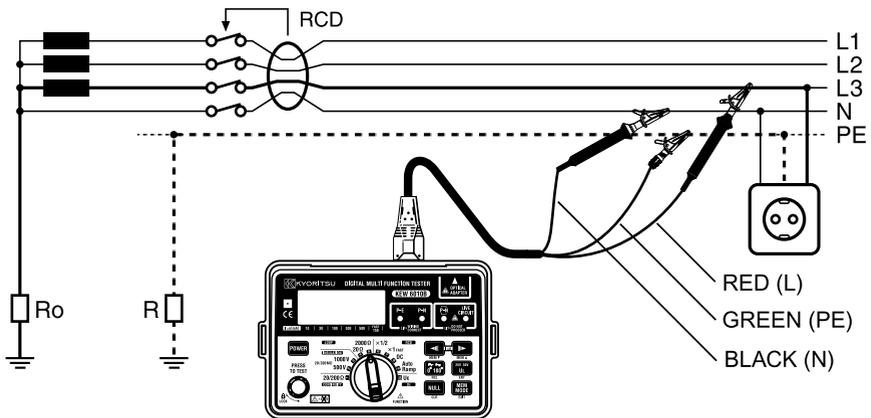

Fig 12
7. If testing lighting or other circuits, connect the three-wire lead Model 7133 (OMA DIEC :optional accessory) to KEW 6010B, connect the red (phase) lead to the phase connection of the circuit under test, connect the black (neutral) lead to the neutral connection of the circuit under test, and connect the earth lead to the earth associated with the circuit (see Fig 12).
4. Connect the instrument to the RCD to be tested either via a suitable socket outlet (see Fig 11) or using the Model 7133 (OMA DIEC) test lead set (see Fig 12).
5. Connect the instrument to the RCD to be tested either via a suitable socket outlet (see Fig 11) or using the Model 7133 (OMA DIEC) test lead set (see Fig 12).